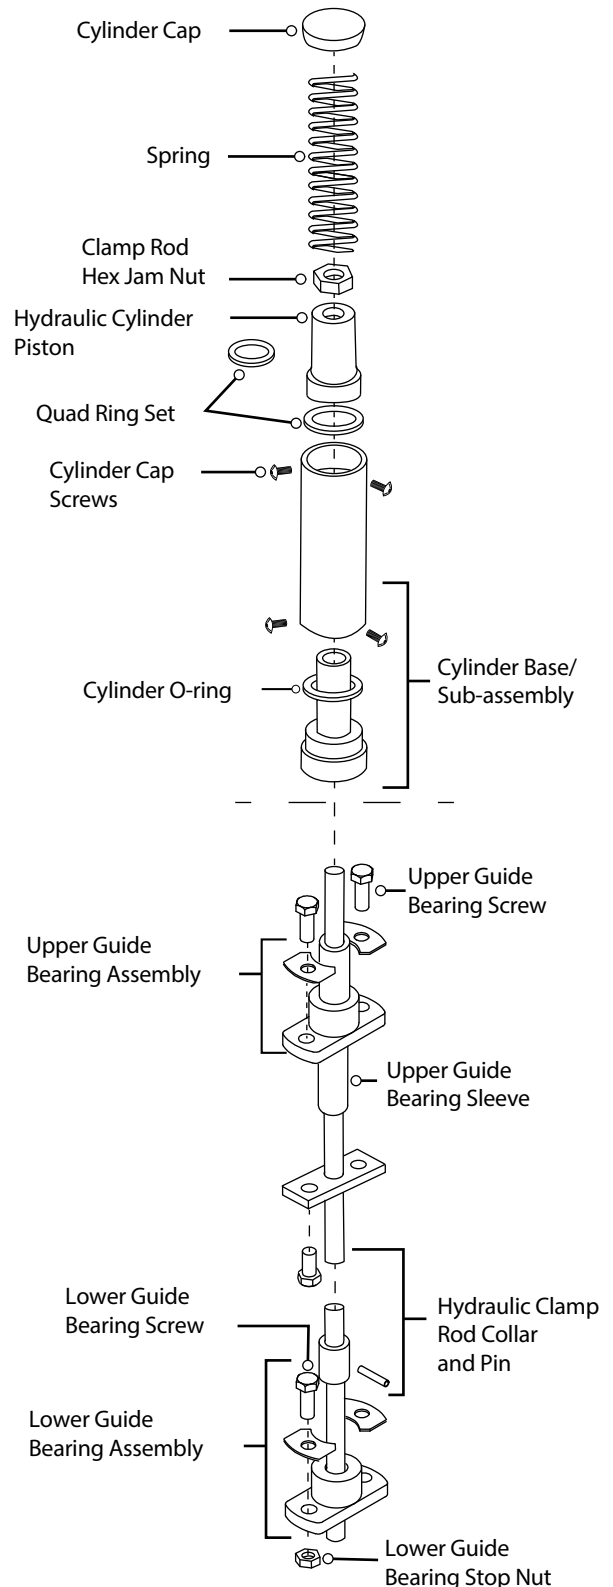

Fig. 8: TS-1 and TS-3 Hydraulic Cylinder
3. Remove the three screws securing the cylinder cap (Fig. 8). The spring is compressed inside the cylinder by the cap, so caution is required. **Keep pressure on the cap with your hand as you remove the three screws.**
3. Working through the access hole near the base of the machine, drive the roll pin out of the clamp rod collar (Fig. 8 on page 17). Slide the clamp rod collar down to rest on the lower guide bearing.